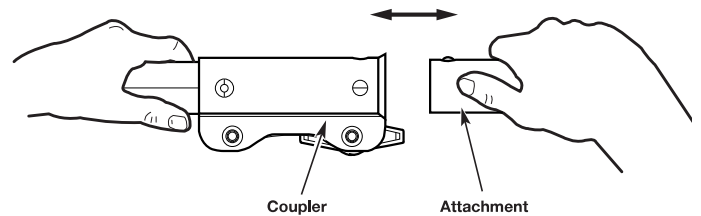

Fig. 6
5. Push the attachment straight into the coupler until the release button snaps firmly into the primary hole (Fig. 6).
4. Pull the attachment straight out of the coupler (Fig. 6).